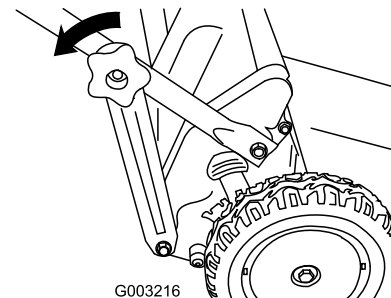

Figure 47
1. Remove the lower handle knobs (Figure 47).
2. Detach the lower handle brackets from the lower end of both handle sides (Figure 47).